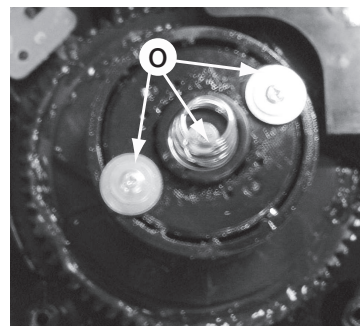

Figure 16
- 1) Loosen 3 screws "O" as shown in figure 16.